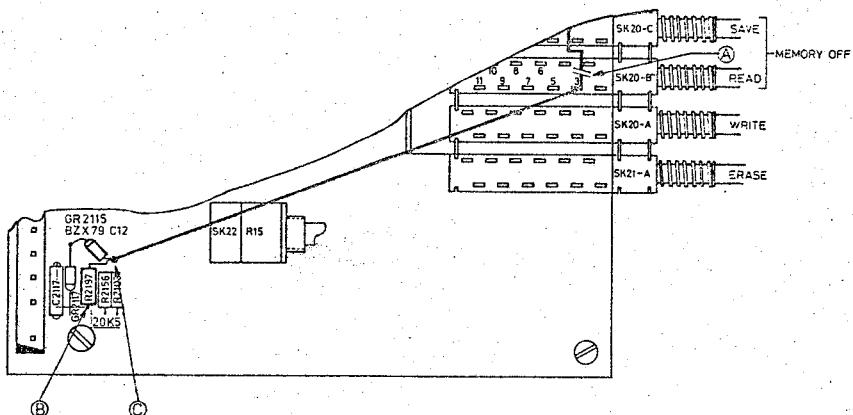

Fig. 1. Part of variable persistence and storage unit.
2. Interrupt the track (on the track-side of the p.w.b.) between point 3 of SK20B (READ) and the anode of GR2117 as indicated in fig. 1 A
4. Solder one side of a resistor of 20k5 (5322 116 55255) on the point, which is connected with C2117 as indicated in fig. 1 B (on the component side of the p.w.b.)
5. Solder between the resistor of 20k5 and the anode of the zenerdiode GR2115 a zenerdiode (GR2115) BZX 79 C12 (4822 130 34197). The cathode of GR2115 to the anode of GR2117 (see fig. 1)
6. Mount an interconnection wire between the anode of GR2115 (fig. 1 C) and point 3 of the switch SK20B (READ)